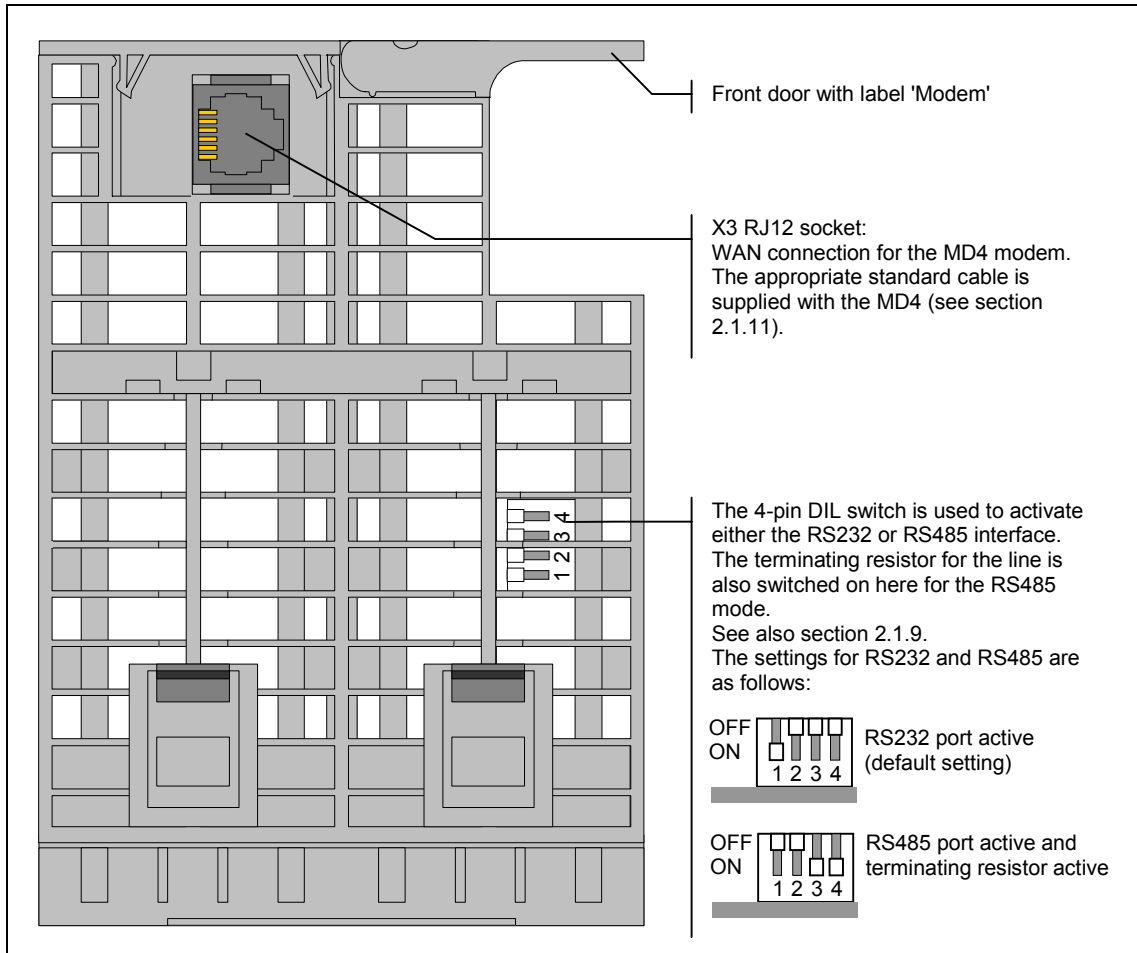

Fig. 2-8 View of the MD4 modem from below
Another 4-pin DIL switch can be accessed from the bottom of the modem housing (see Fig. 2-8). The DIL switch is used to activate either the RS232 or RS485 interface. The terminating resistor for the line is also switched on here for the RS485 mode. The following illustration shows a summary of the settings possible, Fig. 2-8 shows the default settings.
- 1) The RS485 interface of the MD4 modem must be activated with the 4-pin DIL switch accessible from below (see Fig. 2-8).